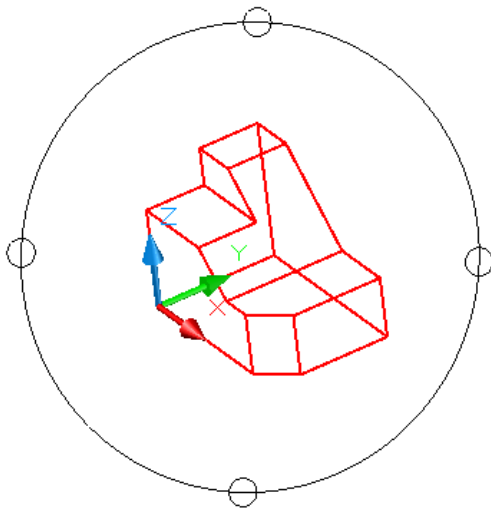

Figure Step 12
Step 12 Move the cursor inside the arcball. Press and hold down the left mouse button and while holding it down, move it until the model appears as shown in the figure. (Figure Step 12)